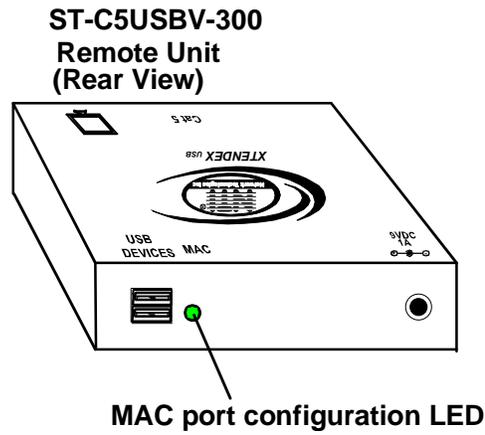

Figure 16- MAC LED
2. If a MAC CPU is connected, press the <M> key. The keyboard LEDs will momentarily flash and the "MAC" LED on the Remote Unit will illuminate to indicate MAC Mode is ON. (See Figure 16)